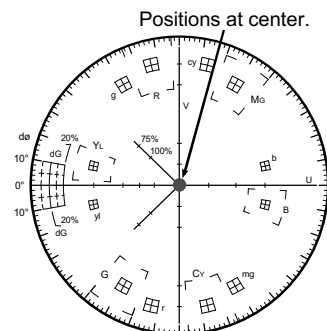

Fig. 4-24
- Adjust data with the **ARROW** keys so that the vector positions at the center of the Vectorscope as shown in Fig. 4-24.